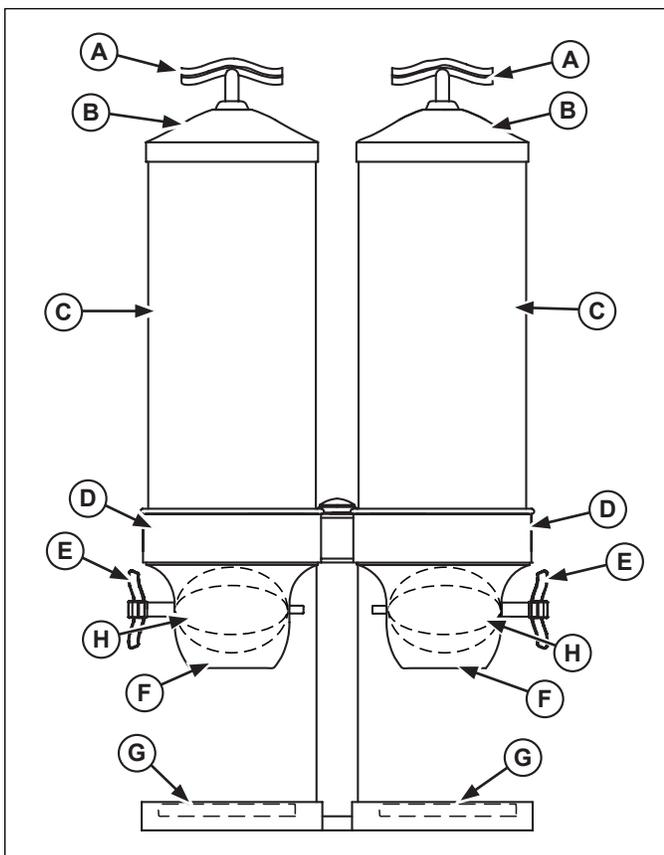

Figure 7. Cereal Dispenser Features and Controls.
1. Set the food chute (F) into the base (D). See Figure 7. The food chute (F) is wider at the bottom. It fits onto the base (D) one way.
2. Set the paddle (H) into the food shoot (F) and align the holes.
3. Push the dispensing handle (E) through the holes of the paddle (H) and food chute (F).
4. Set the food tube (C) onto the base (D) and set the cover (B) into place.
- (A) COVER HANDLE. Used to open and close the cover.
- (B) COVER. Covers the food/beverage product.
- (C) FOOD TUBE. Holds the food product.
- (D) BASE. Holds food tube and dispensing mechanism.
- (E) DISPENSING HANDLE. Dispenses food product when rotated.
- (F) FOOD CHUTE. Area where the food product is dispensed.
- (G) DRIP COVER. Covers the drip trough on the base. Can be removed for cleaning.
- (H) PADDLE. Controls the flow of food product.
1. Remove the cover (B) and place the food product into the food tube (C) and return the cover (B). See Figure 7.
2. Place a bowl or other container under the food chute (F).
3. Rotate the dispensing handle (E) until the desired amount of food product has been dispensed.
4. Remove the drip cover (G) from time to time and clean any spilled food product.